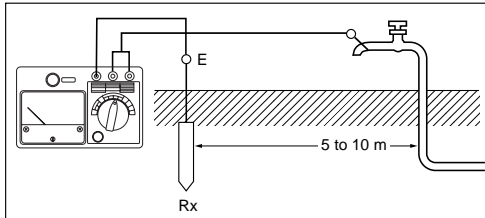

Fig.3
(3) Simplified two-electrode method
When measuring earth resistance (D), a simplified measuring method is available where there is something to serve as an almost perfect earthing like a water pipe (Plastic pipe must be avoided). (Fig. 3)